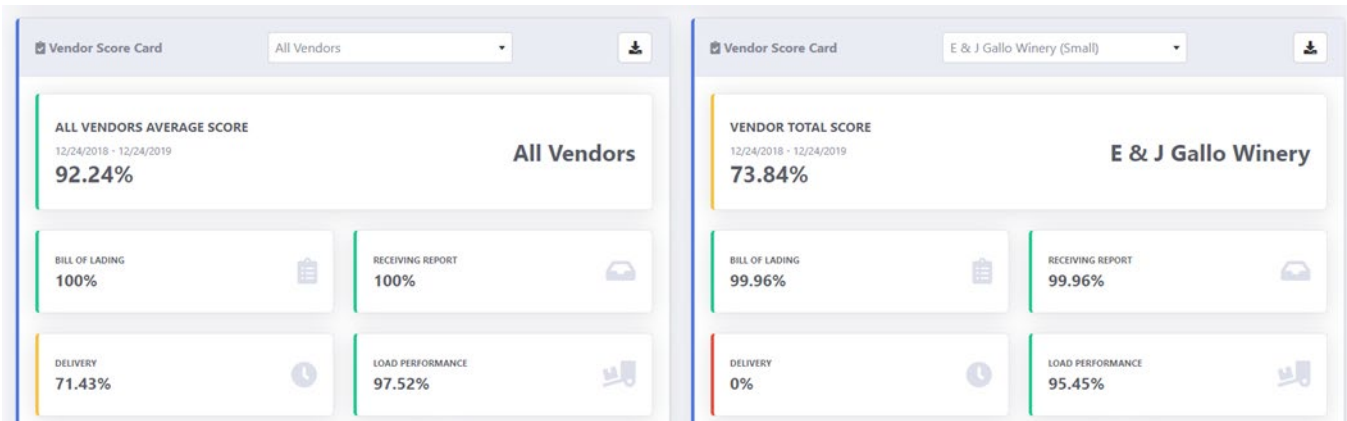

Figure 3
- **Live Example All Vendors** [weighted at 25% each] See Figure 3